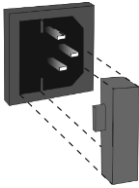
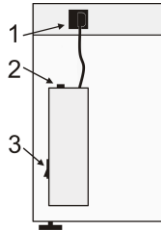
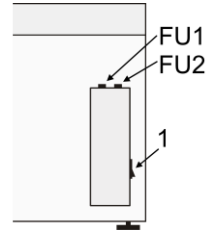

Figure 4.
Figure 5
Figure 6
- 8.2.1 Fuse for the control box. Disconnect the unit from electric circuit. Remove power cable from its socket on the rear side of the unit. Open the fuse holder by pulling out the holder (fig. 4, compact models) or by screwing off the holder lid marked FU2 (fig. 6, model **UVT-S-AR**). Check the fuse and replace if necessary, **M** 3.15 A (type **M** - time lag: **Medium**).
- 8.2.2 Fuse for the mains outlets (for models with built-in mains outlets). Disconnect the unit from electric circuit. Open the fuse holder by screwing off the holder lid (fig. 5/2 or fig 6, FU1). Check the fuse and replace if necessary, **M** 5.0 A (type **M** - time lag: **Medium**).